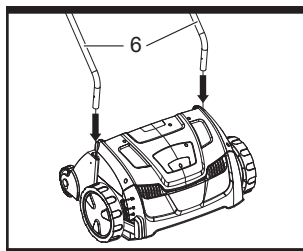

Fig. 1a
- a). Align the lower hand bars (6) with the supports (8). Make sure the holes in the lower handle bars correspond those in the supports (8) and secure the bars with one screw (7) each to the support (8). (See Fig. 1a, 1b).